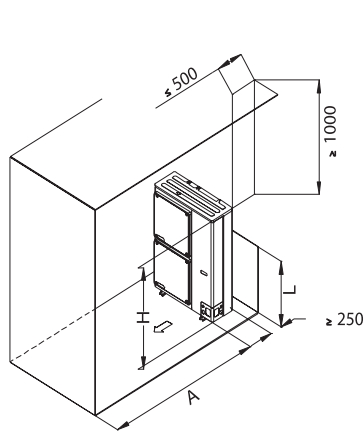

Figure 13
- a. Single unit installation (see Figure 13)